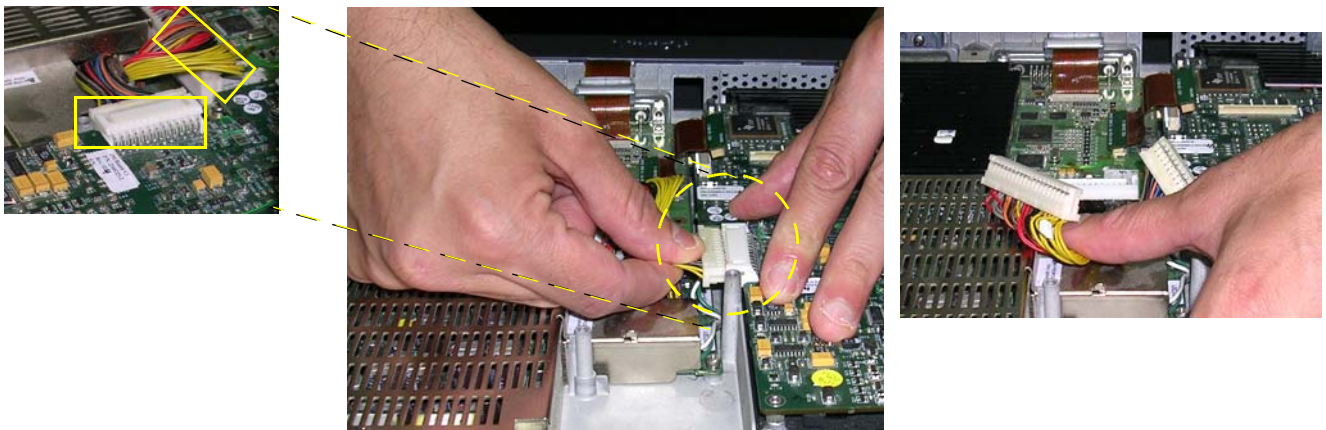

Figure 8-36 Disconnecting the DC Power Supply Cables
- 3) Reconnect each of the two Power Supply cables to the DC Power Supply (HVPS-to-BEP and HVPS-to-RFI), as shown in Figure 8-36 on page 8-38 .